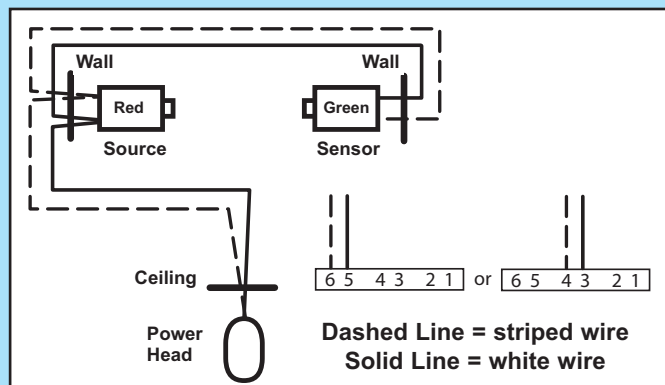

FIG. 4-5b Pre-Wired source and sensor wiring methods.
- Route wire from wall to Safe-T-Beam® sensors (Fig. 4-5b).
- Route wire from ceiling to power head (Fig. 4-5b).